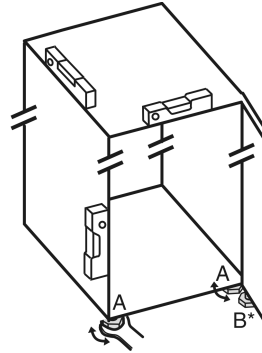

Fig. 23
- ▶ Unscrew the adjustable feet Fig. 23 (A) using the enclosed open-end spanner and a spirit level until the appliance is firmly aligned and level.
- ▶ Unscrew the adjustable foot Fig. 23 (B) on the swap bearing block with the enclosed open-end spanner until it rests on the floor.
- ▶ Turn the adjustable foot Fig. 23 (B) 90° further.